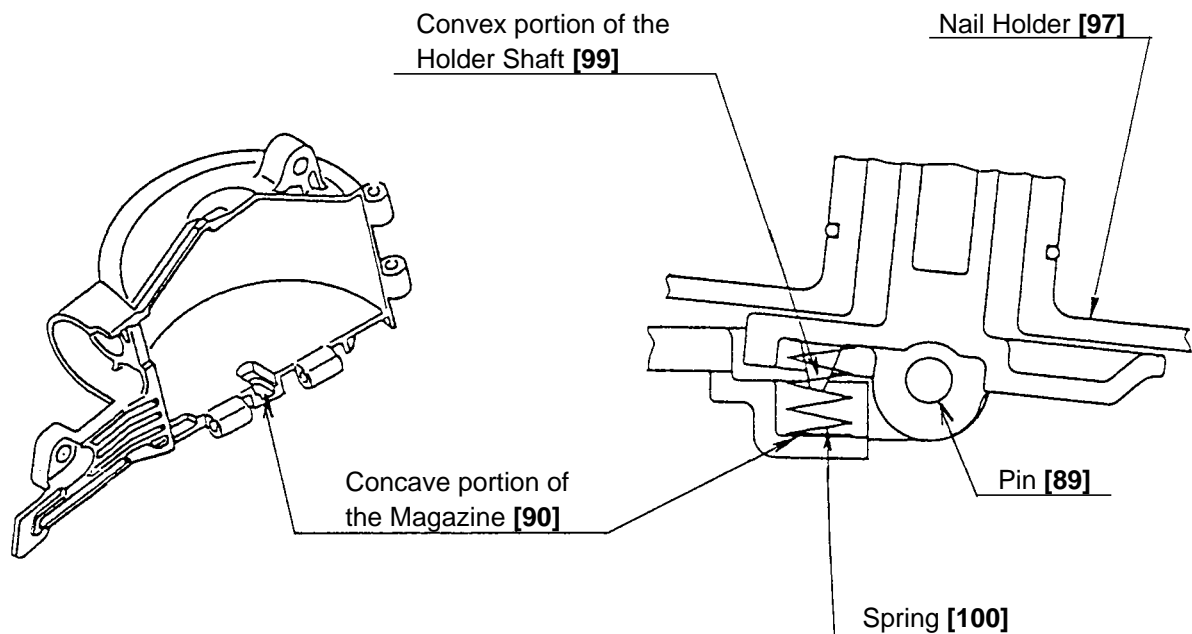

Fig. 25
- When mounting the Holder Shaft [99] to the Magazine [90], check that the Spring [100] is securely inserted between the concave portion of the Magazine [90] and the convex portion of the Holder Shaft [99], then insert the Pin [89] (Fig. 25).